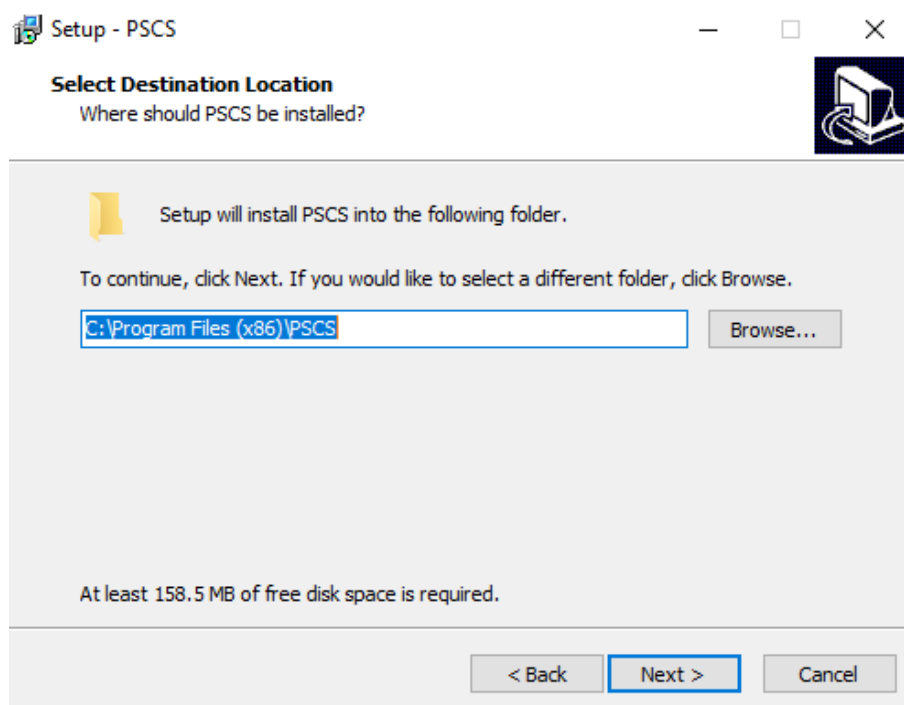

Figure 7.5
5. Select a destination location for the software. **Figure 7.5**